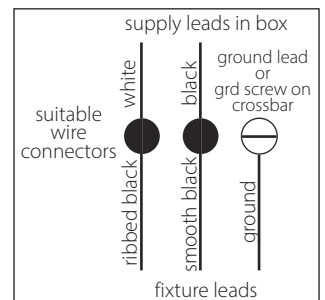

Figure 5. Wiring diagram
- 9 While the fixture is supported on the nylon all-thread rods, connect the exposed leads of the fixture wiring in the canopy to the leads in the electrical box according to the wiring diagram (Figure 5). Use suitable wire connectors (not provided).